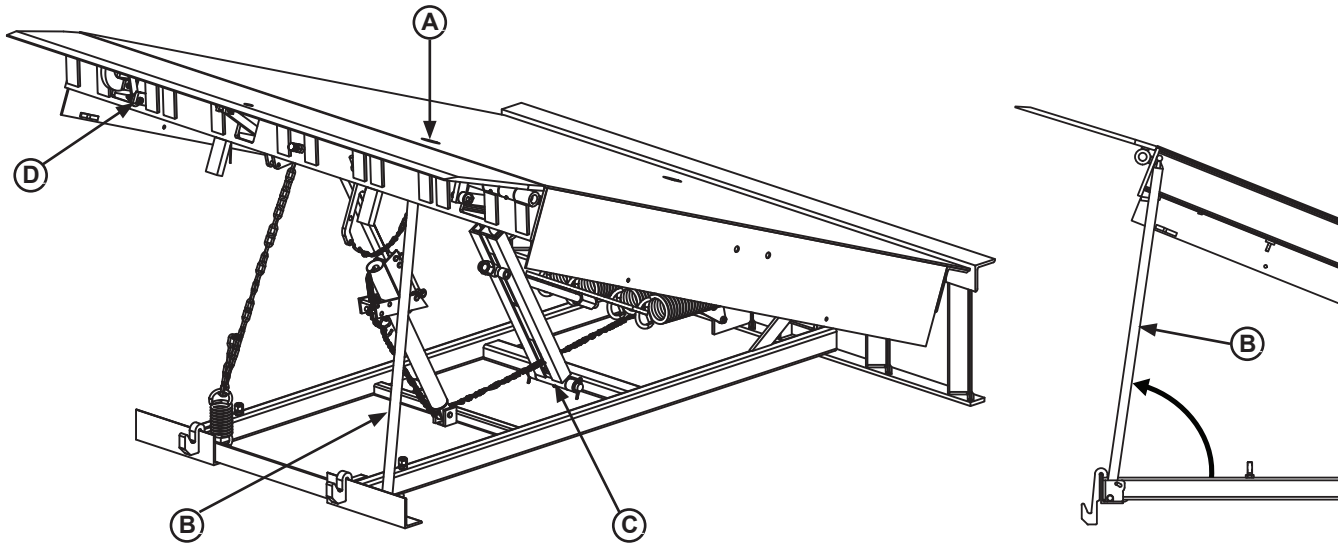
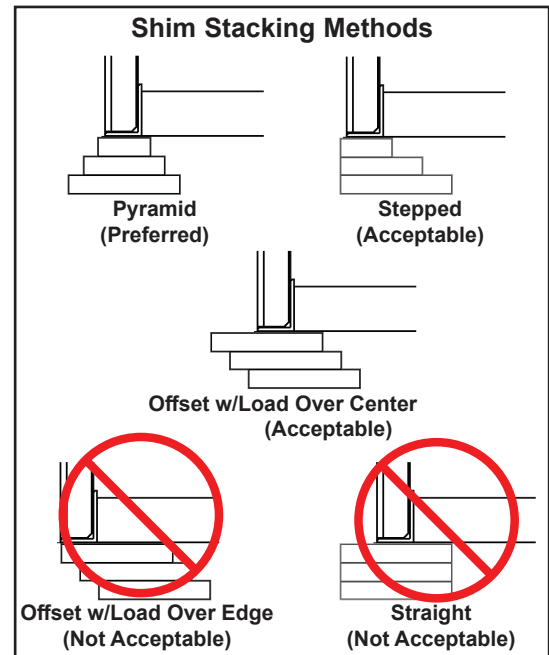

Figure 12
Figure 13
22. Shim and weld the maintenance prop (Figure 12):
a. Install shims under maintenance prop (B) where prop attaches to leveler frame. Make sure prop is solidly shimmed.
b. Raise maintenance prop (B) to the service (upright) position and lock prop in this position using an OSHA approved locking device.
23. Install shims under lift arm (C, Figure 12) at locations using an acceptable shimming method (see Figure 13). The lift arm pivot must be solidly shimmed the entire length of the lift arm pivot. Make sure the lift arm pivot is level from side-to-side.
30. Check full below-dock position by walking the platform down. Pull and hold safety leg chain (A) before lip folds completely. See Figure 12.